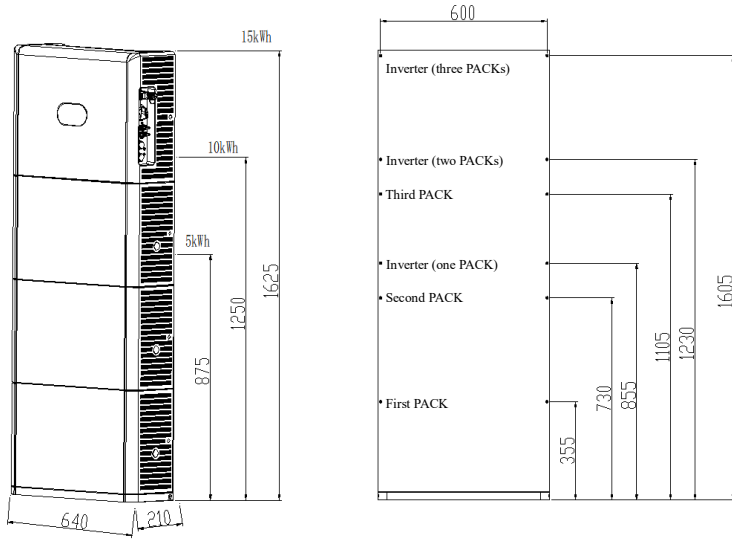

Fig. 4.3 Installation Spacing of Inverter
- (1) Leave adequate space around the inverter to facilitate assembly and disassembly of the inverter. See Fig. 4.3.